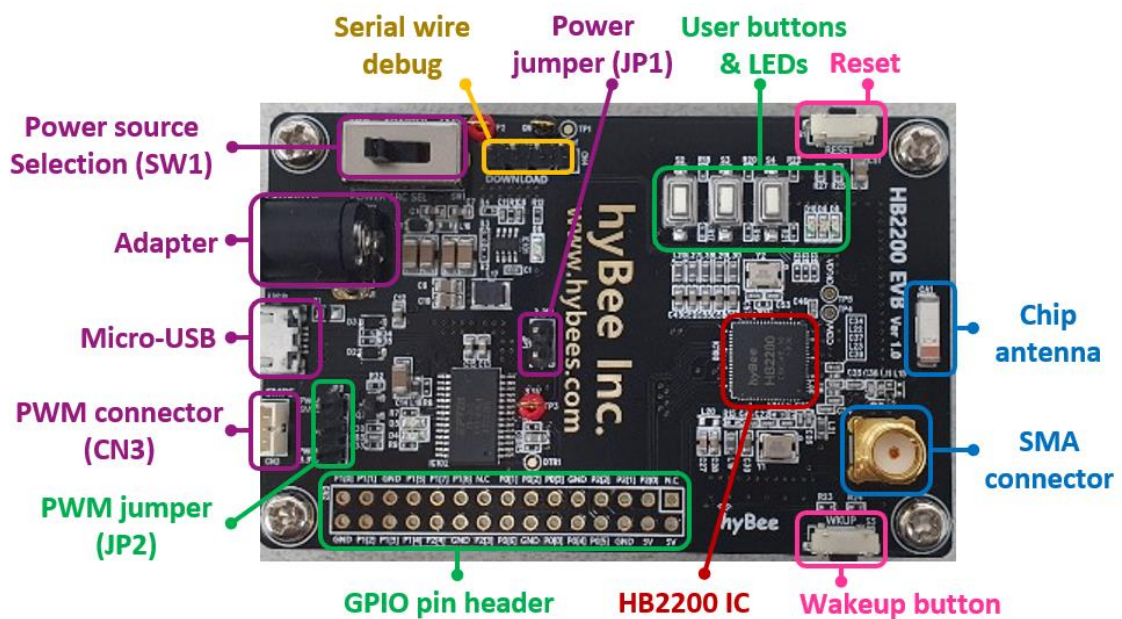
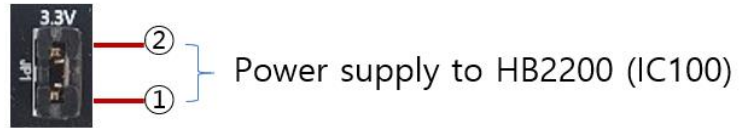

Figure 1-1. Front view of EVB2200
Figure 2-1. Power jumper JP1
EVB2200 can be powered by one of three power sources; Micro-USB, adapter J1 or PWM connector CN3, shown in Figure 1-1. A user can select the input power source by using switch SW1 shown in Figure 1-1. It is required to keep the power jumper JP1 in connection, as shown in Figure 2-1.
The power for EVB2200 can be supplied through the Micro-USB connector shown in Figure 1-1, which is connected to a USB host device (e.g., personal computer (PC) or USB hub). Since the Micro-USB connector can be used as a UART port, it may be required to install a USB UART driver in an external PC.